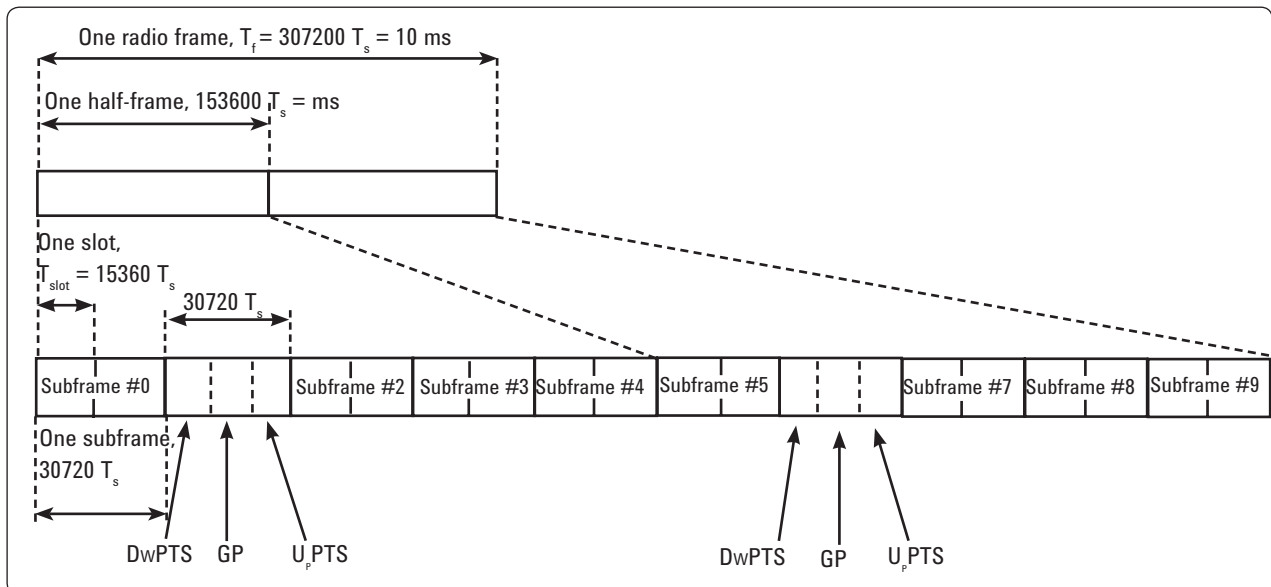

Figure 4. LTE frame structure Type 2 (5 ms switch-point periodicity) (TS 36.211 V8.20)
The structure of FS2 is much more flexible than the structure of FS1. An example of an FS2 structure is shown in Figure 4. This example shows 5 ms switch-point periodicity and it consists of two 5 ms half-frames for a total duration of 10 ms. Sub-frames consist of either an uplink or downlink transmission or a special sub-frame containing the downlink and uplink pilot timeslots (DwPTS and UpPTS) separated by a transmission gap guard period (GP). The allocation of the sub-frames for the uplink, downlink, and special sub-frames is determined by one of seven different configurations. Sub-frames 0 and 5 are always downlink transmissions, and sub-frame 1 is always a special sub-frame, but the composition of the other sub-frames vary depending on the frame configuration.